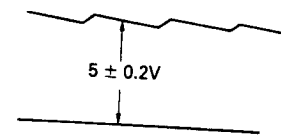

Figure 40.
2. Monitoring TP1 with an oscilloscope (internal trigger), adjust R738 (DRUM LOCK) so that the requirement given in Figure 40 be met.